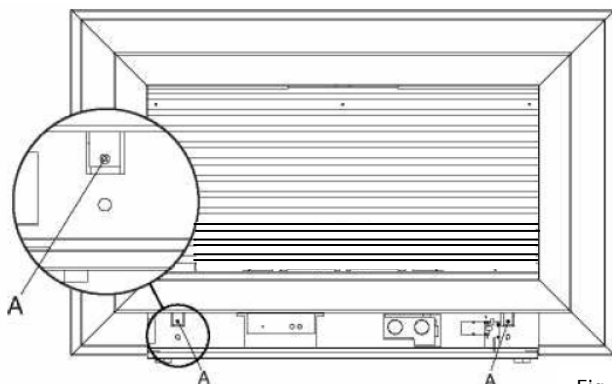

Fig. 6
- 1) Open the ashtray door by pushing on the right side for the Silence/Feeling and on the left side for the Whisper. Remove the frame by loosening the screws A behind the door (see fig. 6). Lift and pull forward and take it away.